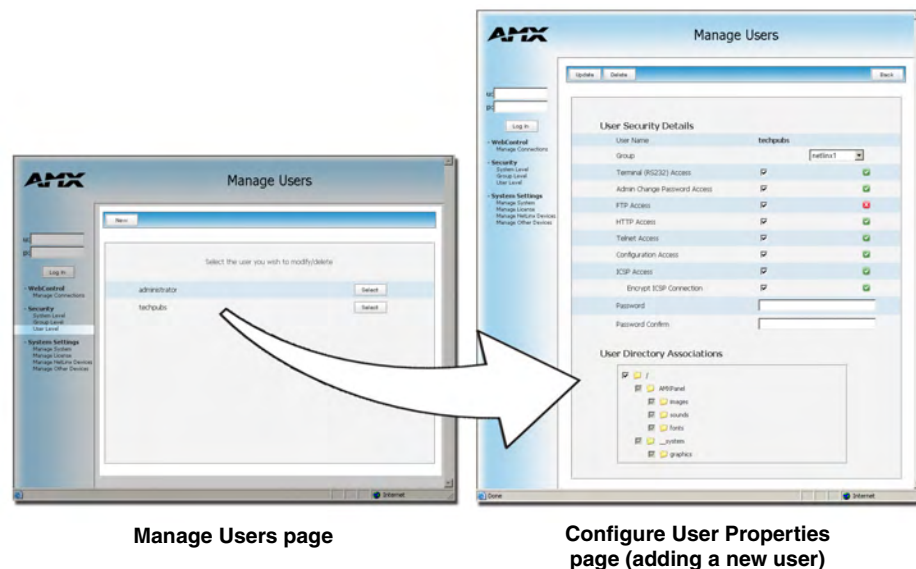

FIG. 45 User Level Security - Manage Users Security page
To access this page, click on the **User Level** link (from within the Security section of the Navigation frame). This page (FIG. 45) allows an authorized user to add a user account (FIG. 30) and then assign that user's current access rights.
2. Click the **New** button to be transferred to the Configure User Properties page (FIG. 45).
- Press the **Select** button next to the selected User name to open the Configure User Properties page (FIG. 45) for the particular user.